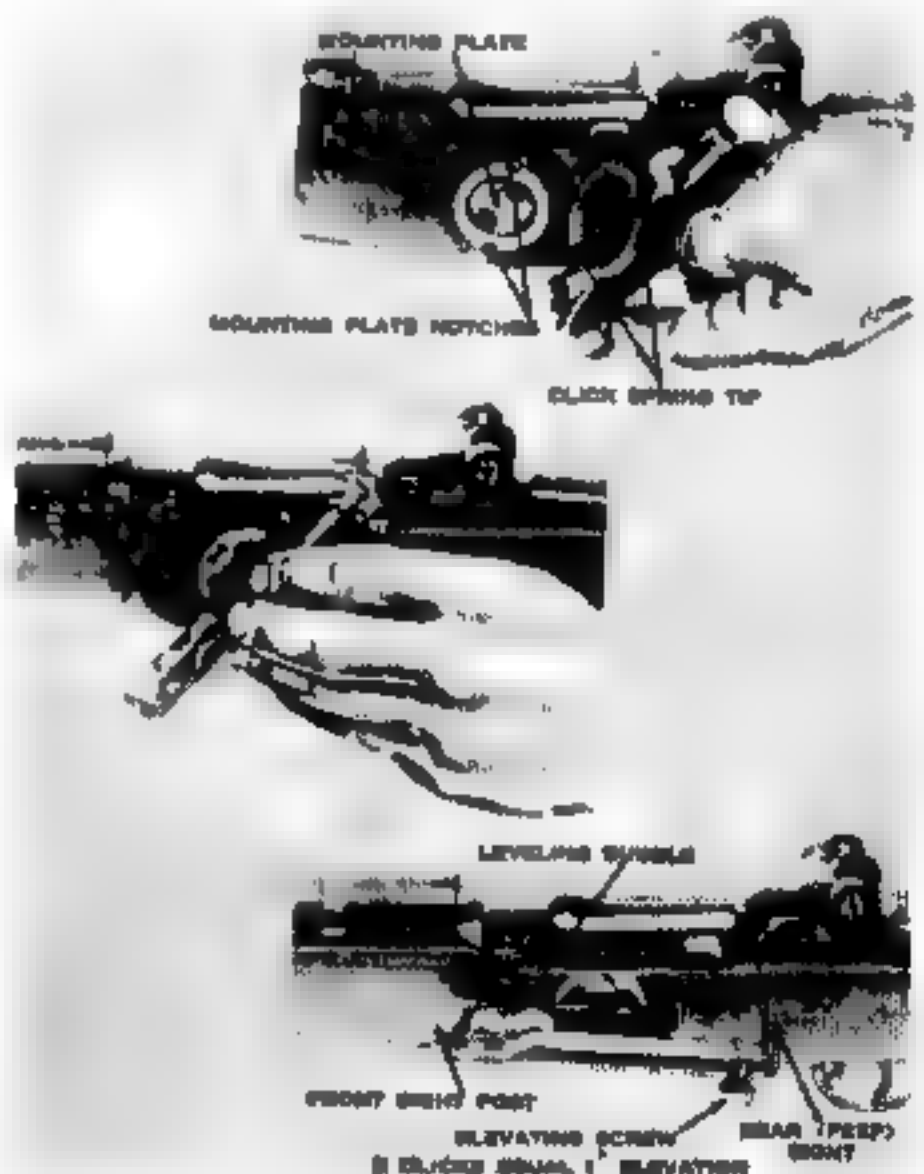

Fig. 34. Rifle grenade sight M-15, mounting on rifle.
11. Rifle Grenade Sight. The Rifle Grenade Sight M-15 (Fig. 34) provides an angular measurement of elevation for firing rifle grenades. It can be used for both low and high angle firing.
spring pass through the two slots in the mounting scale plate (Fig. 34). The sight bar assembly is then turned to the required setting. No clicks will be sensed until the index line on the sight body bracket approaches the graduations on the mounting scale plate. To ease turning, lubricate the ends of the click spring. Wipe clean and renew oil daily and after firing.